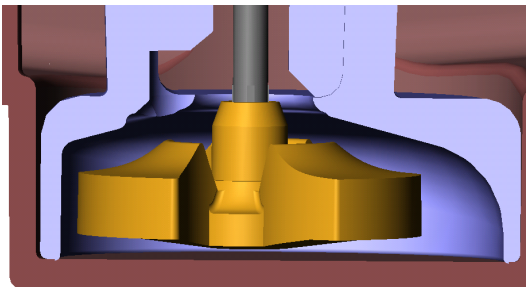

Fig. 5 Pump housing
- The pump rotor rotates in the pump chamber, which is filled with water. This is formed by the bottom of the float tank and the underneath of the pump housing (fig.5 ).